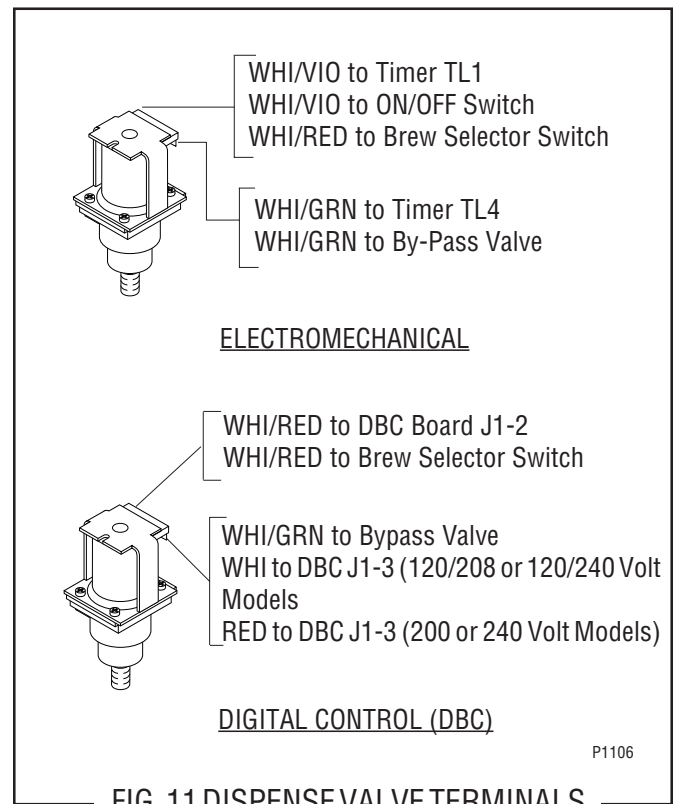

FIG. 11 DISPENSE VALVE TERMINALS
7. Refer to Fig. 11 when reconnecting wires.